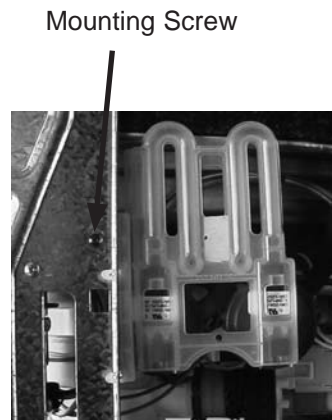

FIGURE 41
3. Remove screw that mounts assembly to side frame. (See Figure 41)